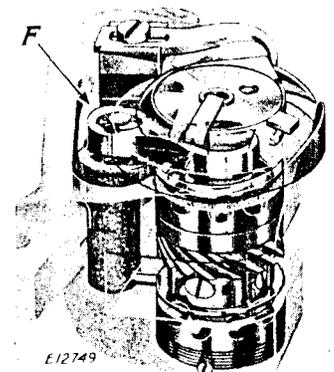

Fig. 5
**HOOKE LUBRICATION.** The "X-ray" view, Fig. 5, shows the means for oiling the ball bearing hook saddles. Oil should be placed in the oil well (F, Fig. 5), from whence it will flow to both upper and lower bearings and also will lubricate the mechanical opener mechanism.